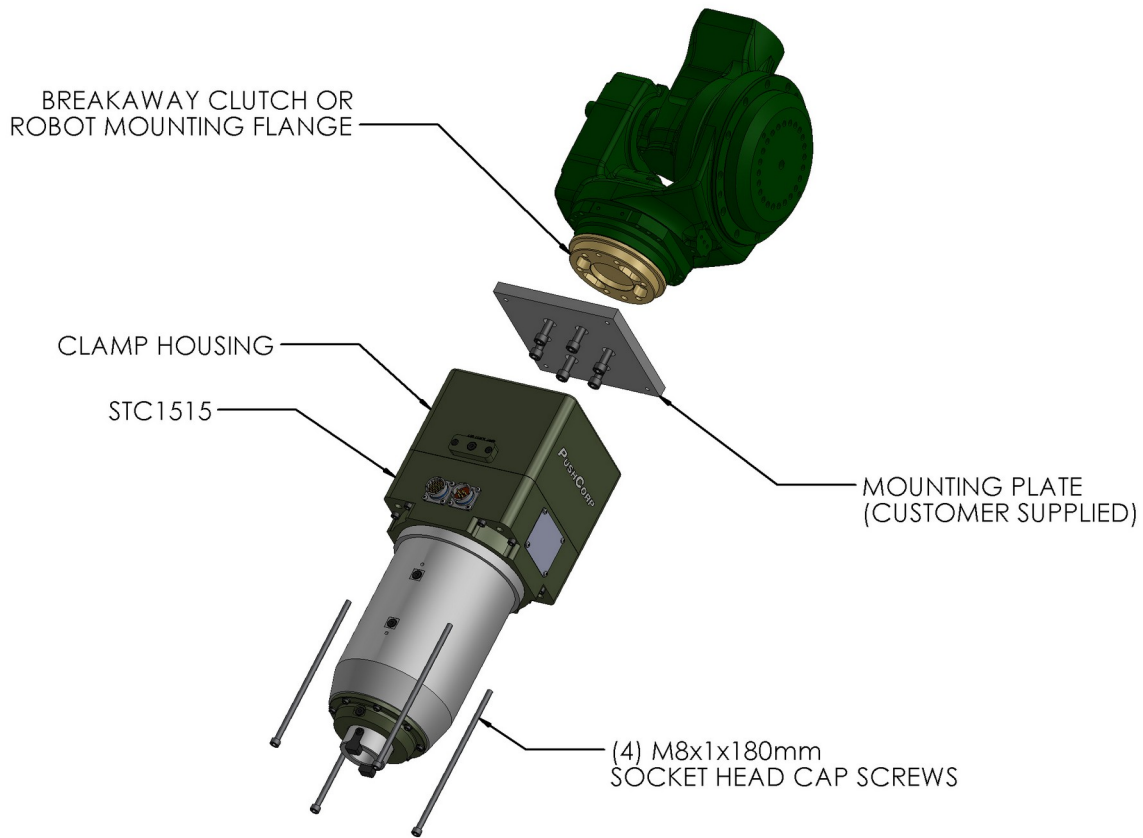

Figure 2. STC1515 Direct Mounting
To mount the STC1515, first attach the Mounting Plate to the Robot Mounting Flange or to the Breakaway Clutch, per the manufacturer's specifications. Once the Mounting Plate is secured, place the STC1515 against the Mounting Plate and install (4) four, M8x1.25X180mm, Socket Head Cap Screws. (See Figure 2.) Tighten the fasteners to the torque specified in Section 4.0.